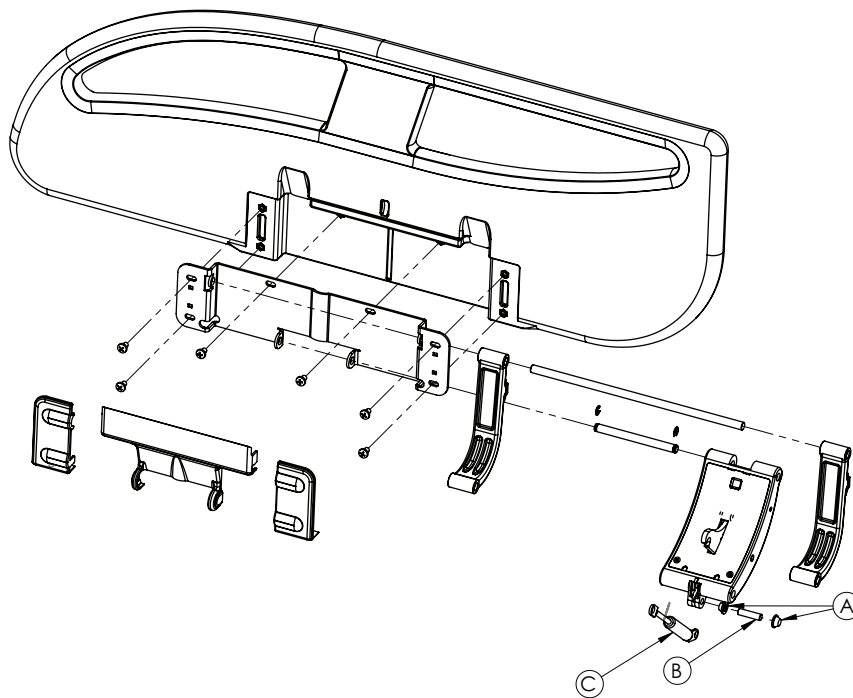

Figure 9 – Head end siderail gas cylinder
6. Using a large flat screwdriver and a hammer, remove one of the push nuts (A) that secures the bottom of the head end siderail gas cylinder (C) to the siderail mechanism (Figure 9).
7. Remove the pivot pin (B) (Figure 9).
8. Remove and discard the head end siderail gas cylinder (C).